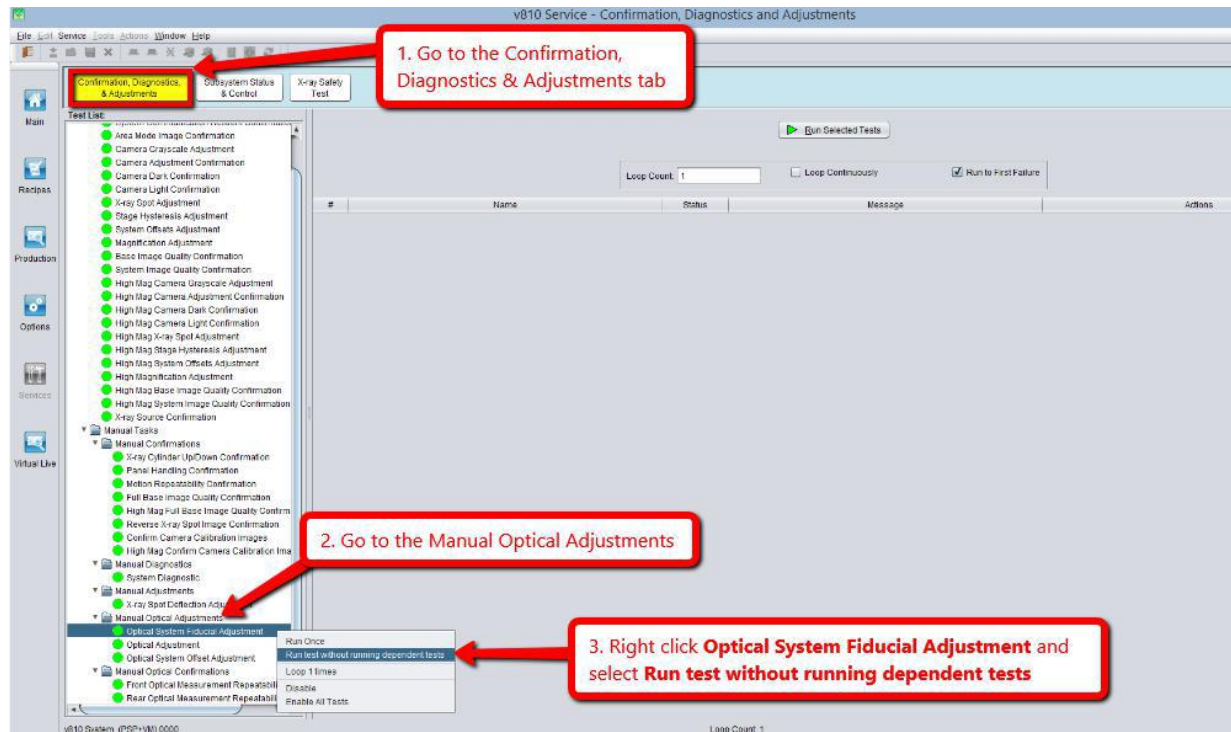

Figure 6 Optical System Fiducial Adjustment
8. At **Confirmation, Diagnostics and Adjustment (CD&A)**, under the **Manual Optical Adjustments**, right click **Optical System Fiducial Adjustment** and select **Run test without dependent tests** as shown in the Figure 6.